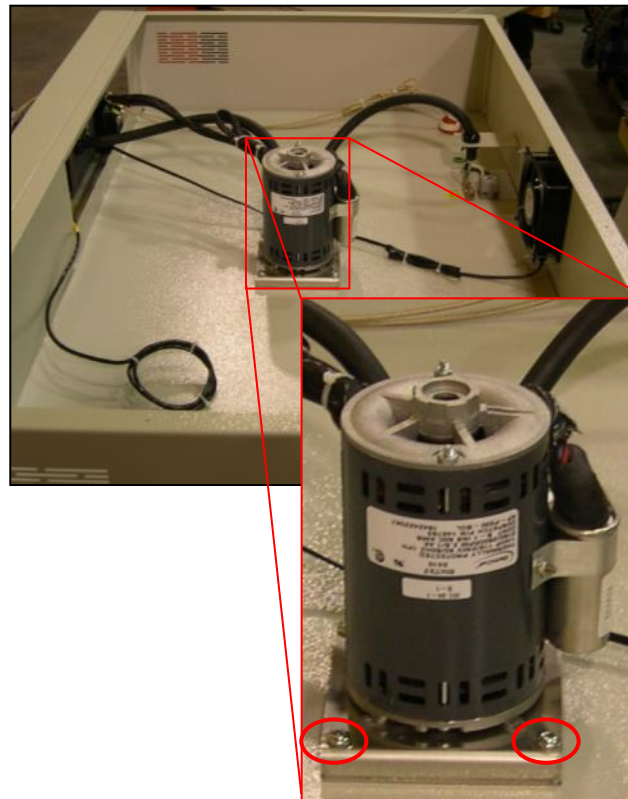
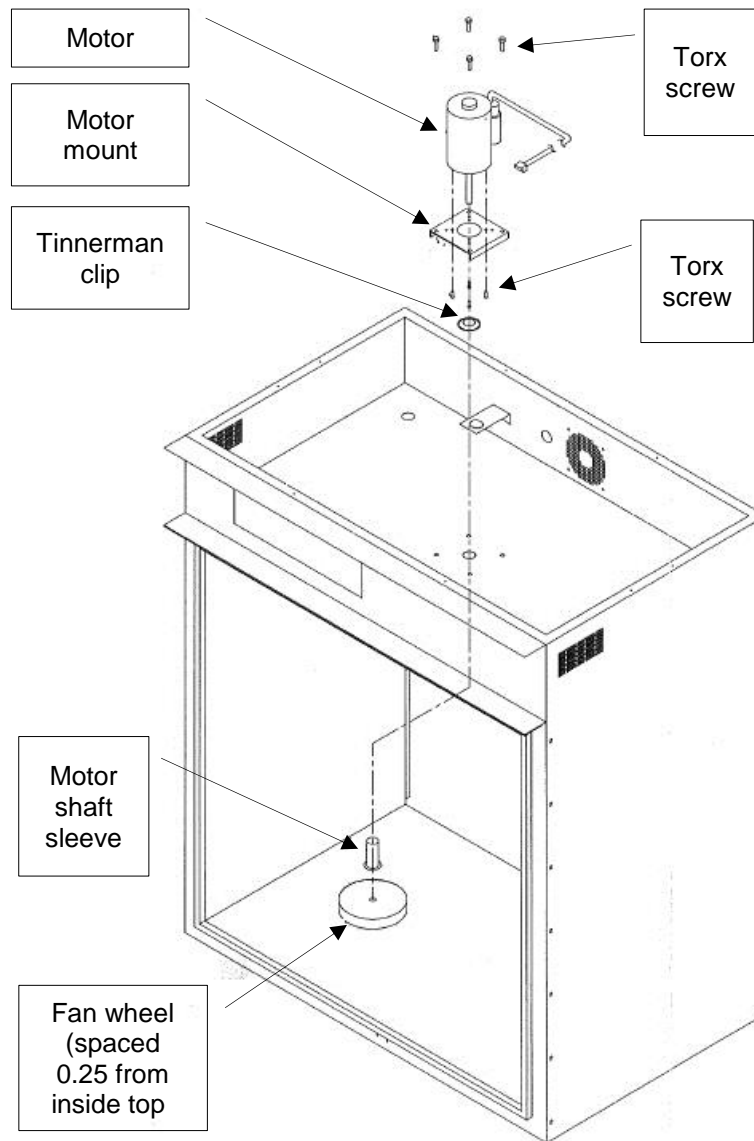

Figure 24. Fan Motor Location.
Figure 25. Separate fan wheel from fan motor shaft.
5. Loosen setscrews (2) on fan wheel in middle of oven top. Access the fan wheel through the heater opening or by disconnecting and removing the heater assembly. Refer to Section 6.5.4 for information on removing the heater unit.
6. Remove top cover to reveal fan motor (Figure 24).
- b. Unscrew screws (4) holding motor mounts to body (T30 Torx bit driver).
8. After running at temperature, the fan wheel may stick to the shaft. Separating the fan wheel from the fan motor shaft may require force. Use a drift or bass mallet as necessary to drive out the shaft (Figure 25).